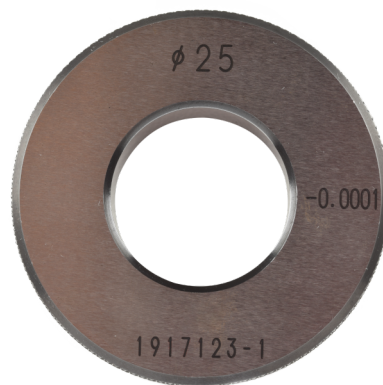

Figure 20: 25-mm master ring gage.
11. Locate the 25-mm master ring gage provided with the learning system, shown in Figure 20.